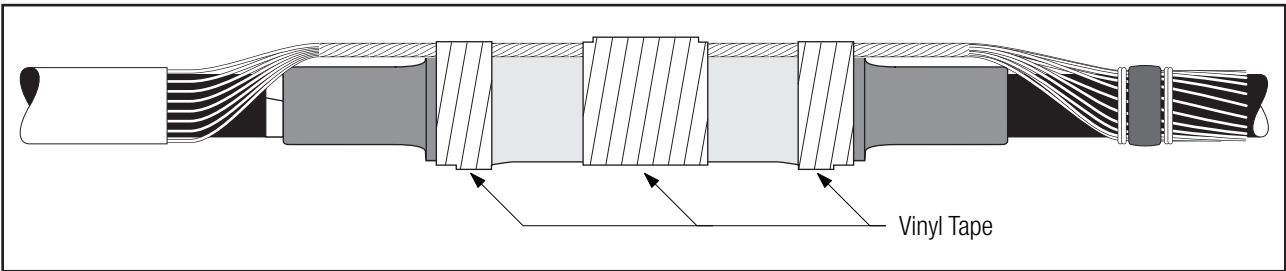

Figure 39
10.1.2 Apply two wraps of vinyl tape around each end of the neutral pad and over the connector (*Figure 39*).